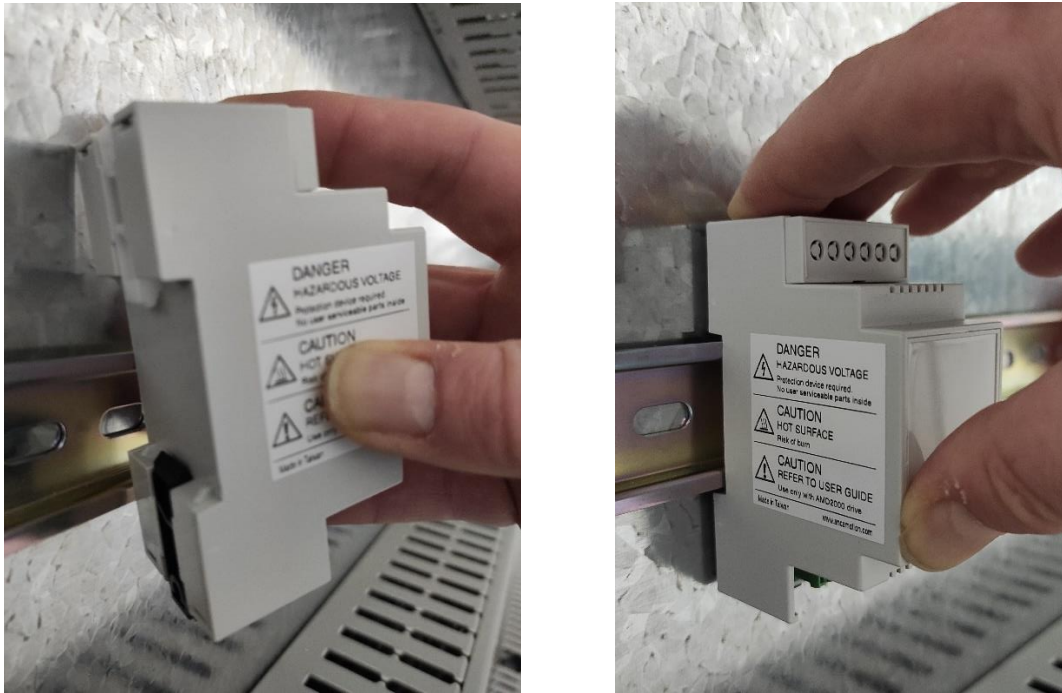

Figure 6-11 Mounting the Soft Start Module to the DIN rail
- To mount the Soft Start Module on DIN rail, position the white clip (fixed) over the top edge of the DIN rail and press the module against the rail until you hear the black clip (spring-loaded) click into place. Refer to Figure 6-11.